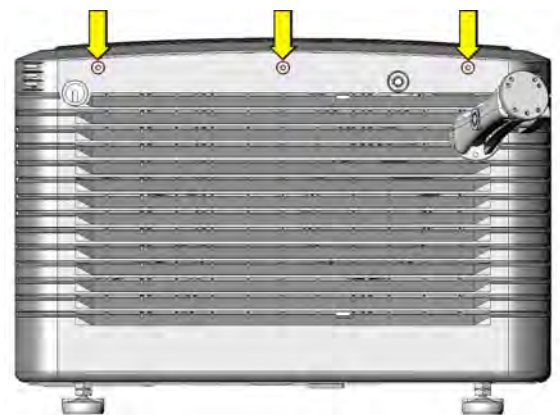

Figure 5-5 Remove Back Cover
2. Using a #2 Phillips™, loosen the three screws securing the back cover to the chassis. **(Figure 5-5)**